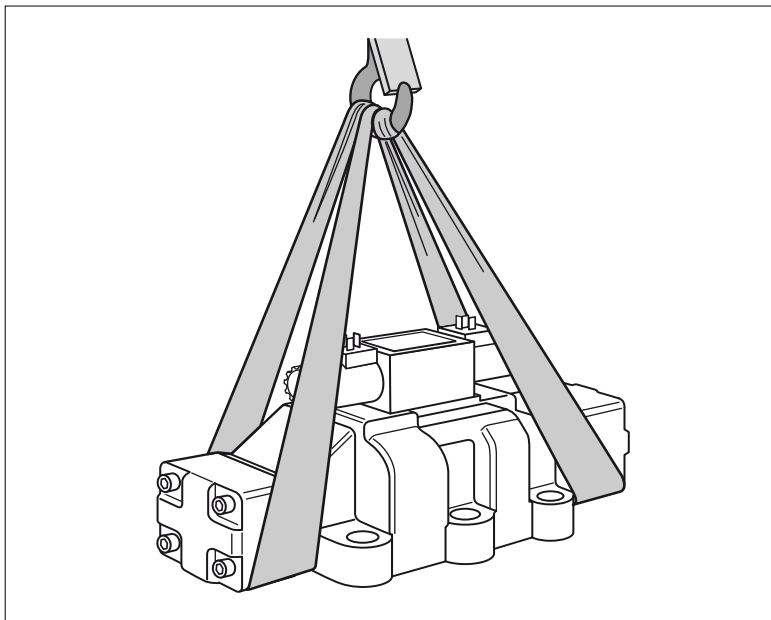

Fig. 3: Position of the lifting strap
- Put a transport belt around the valve so that it does not lie over the attachment parts (e.g. pilot control valve, solenoids), see figure 3.